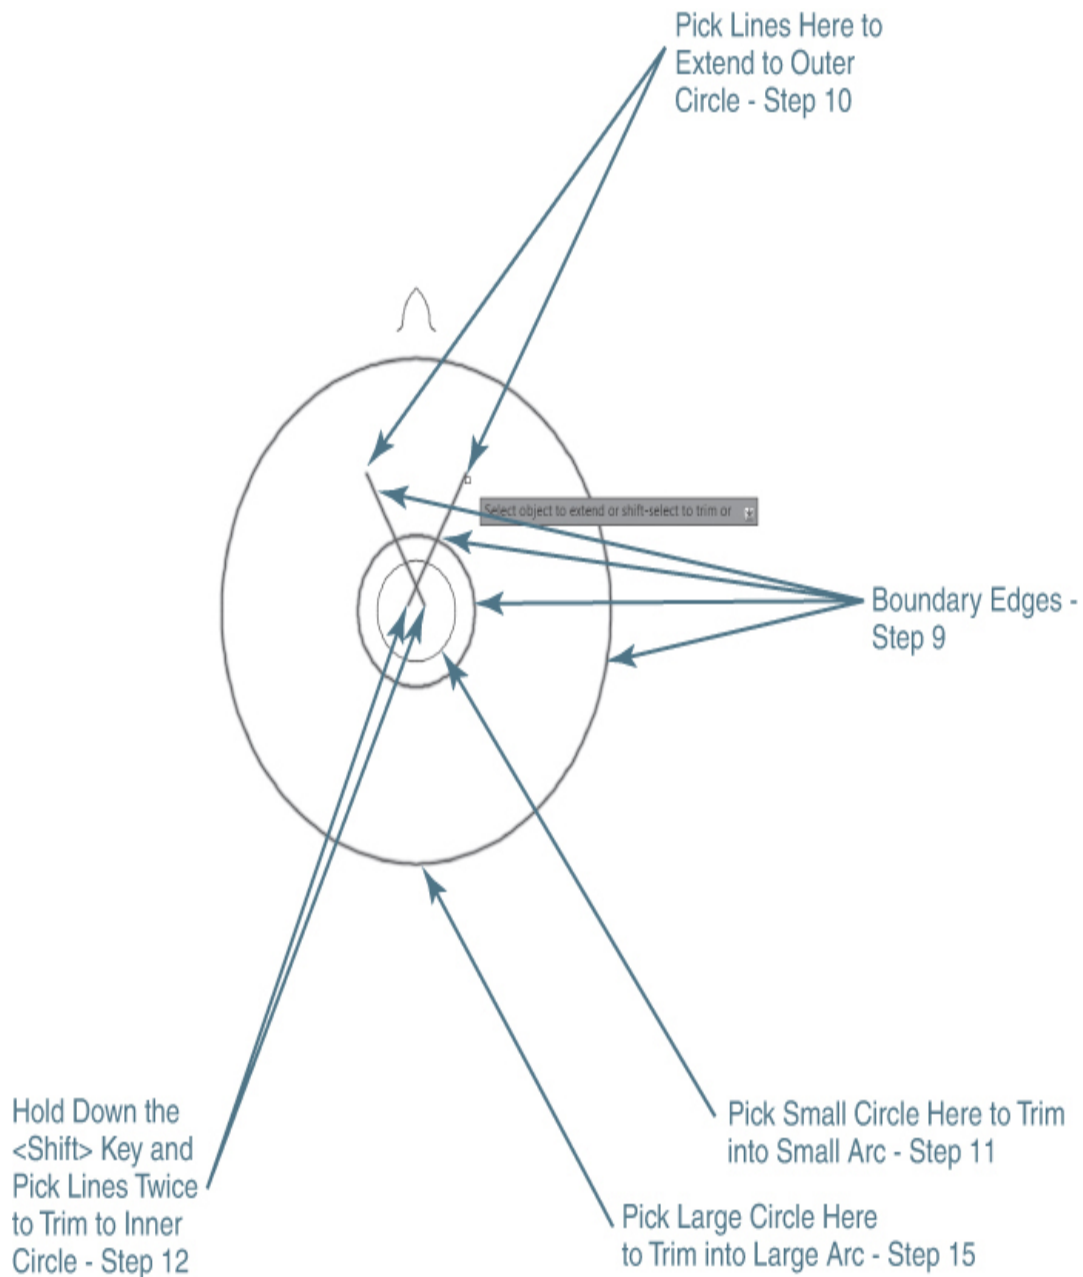
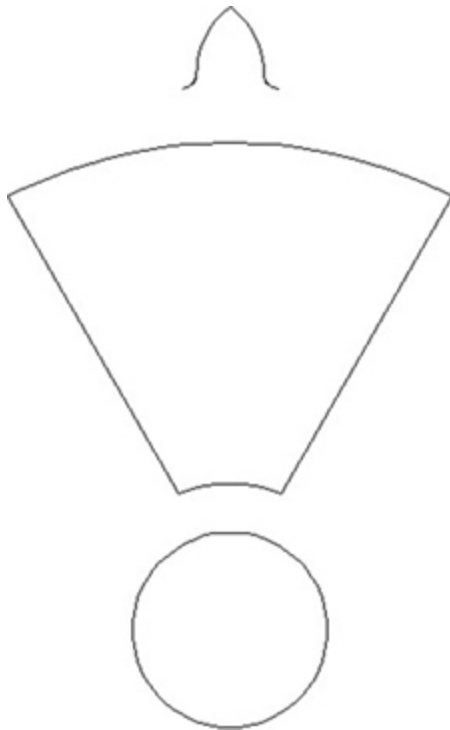

Figure 8-25
Figure 8-26
and the two angled lines as boundary edges as shown in Figure 8-25, and press **<Enter>**.
- 10** Pick near the ends of the two angled lines using the pick points shown in Figure 8-25 to extend the lines to meet the outer circle.
- 11** Hold down the **<Shift>** key to enter **Trim** mode. Select the inner circle using the pick point shown in Figure 8-25, and trim it into the small arc segment shown in Figure 8-26.
- 12** Hold down the **<Shift>** key to enter **Trim** mode. Select the two angled lines using the pick points shown in Figure 8-25, and trim them to meet the small arc segment created in step 11 as shown in Figure 8-26.
15 Pick the outer circle near the bottom as shown in Figure 8-25 to trim it into the large arc segment shown at the top in Figure 8-26.
17 Save your drawing. Your drawing should look like Figure 8-26.